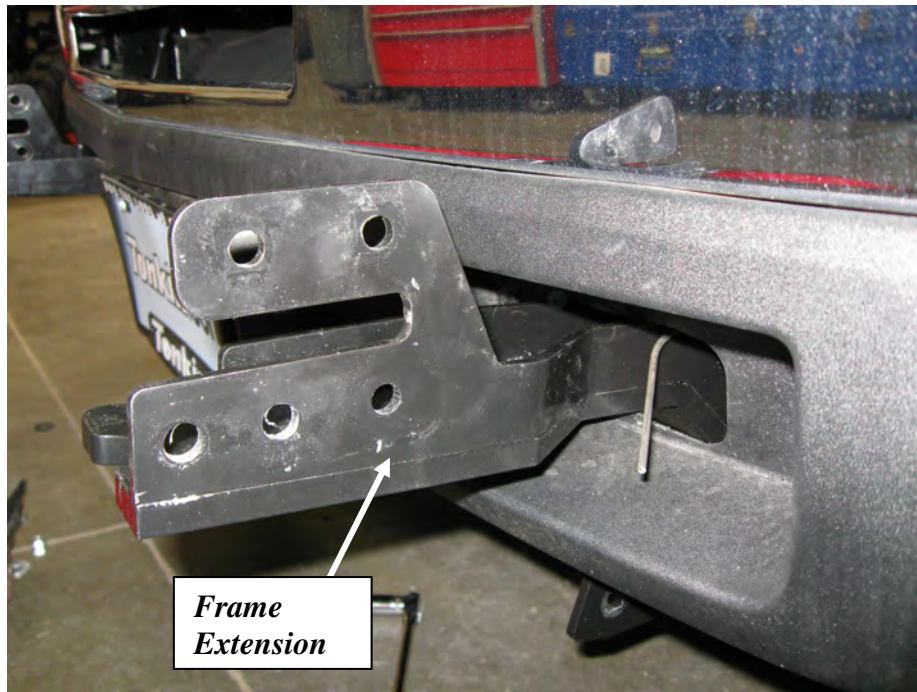

**Figure 5 LH Bottom Bracket in place.**
Remove the 7/16 x 5" bolts. Insert the LH and RH Frame Extensions into the frame. Reinstall the 7/16 x 5" bolt with flat washers (2ea), lock washers and nuts. Also install two (2) 1/2 x 1 3/4" bolts with lock washers and flat washers through the bottom of each Bottom Bracket and frame, into the nuts welded to the frame extensions. See **Figure 5 and 6**